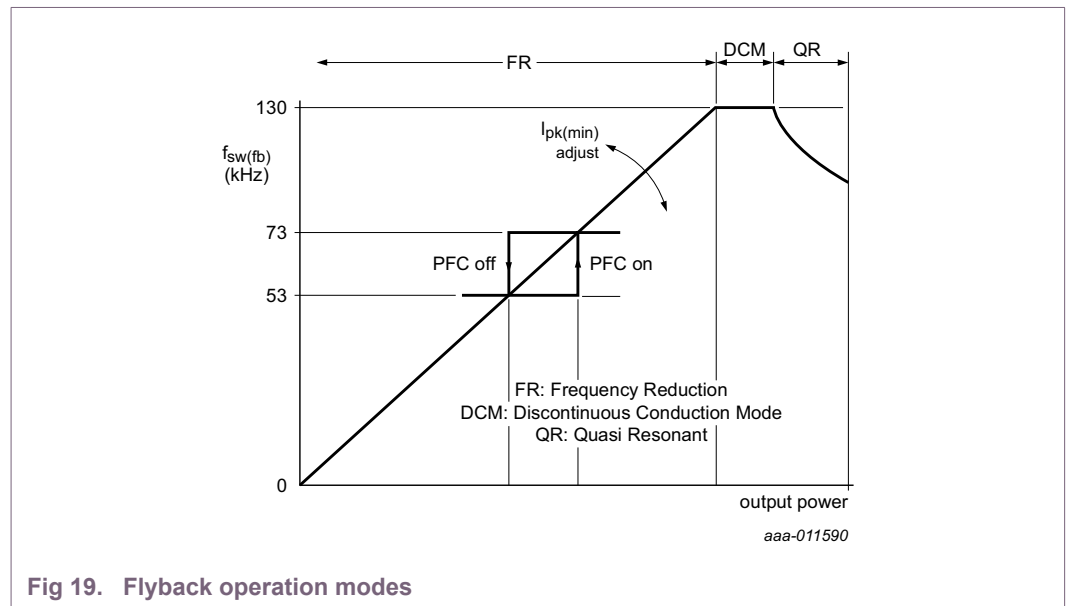

Fig 19. Flyback operation modes
At initial start-up, the flyback controller starts at the maximum output power. So the system starts in Quasi-Resonant (QR) mode. The flyback controller passes through three operation modes from maximum to minimum output power (see Figure 19):
- Quasi-Resonant (QR) mode
- Frequency Reduction (FR) mode